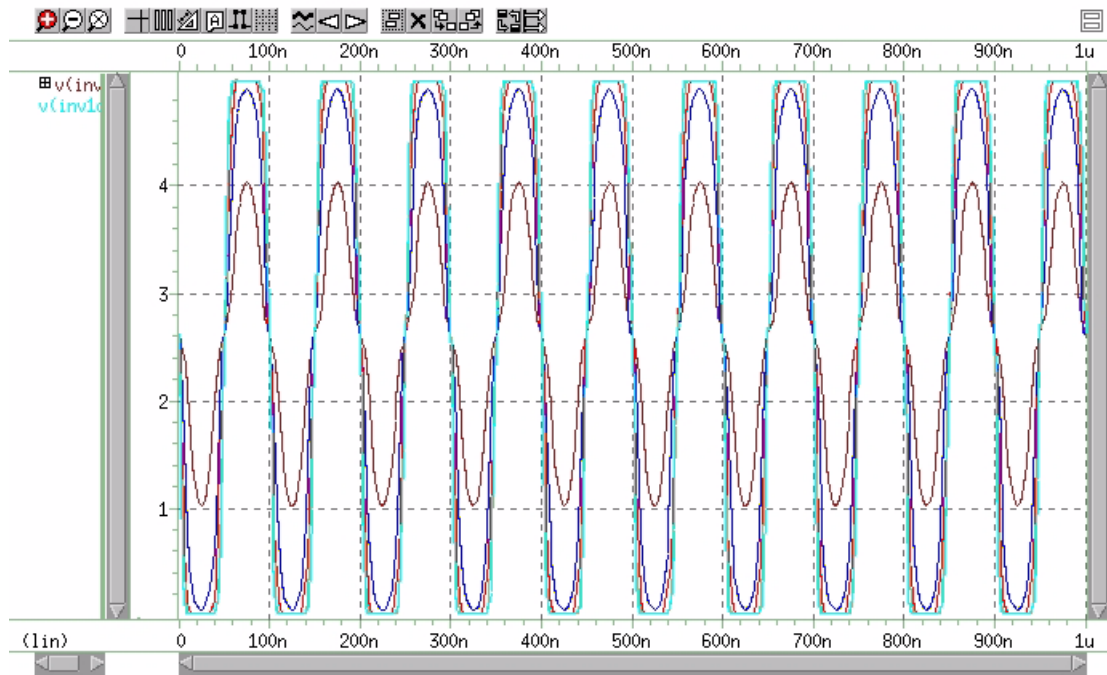

Figure 237 Plot of Voltage on Node inv1out vs. Time
- Repeat Step 6 and Step 7 to view the signals $v(inv1out)$ and $v(inv2out)$ (Figure 237 and Figure 238 on page 922).